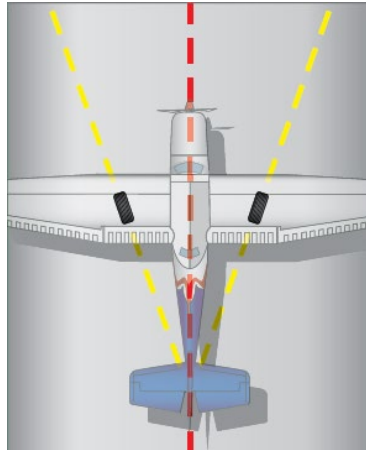

Figure 1.10
- 1.10 What is the condition associated with the alignment of the wheels shown in Figure 1.10 known as?